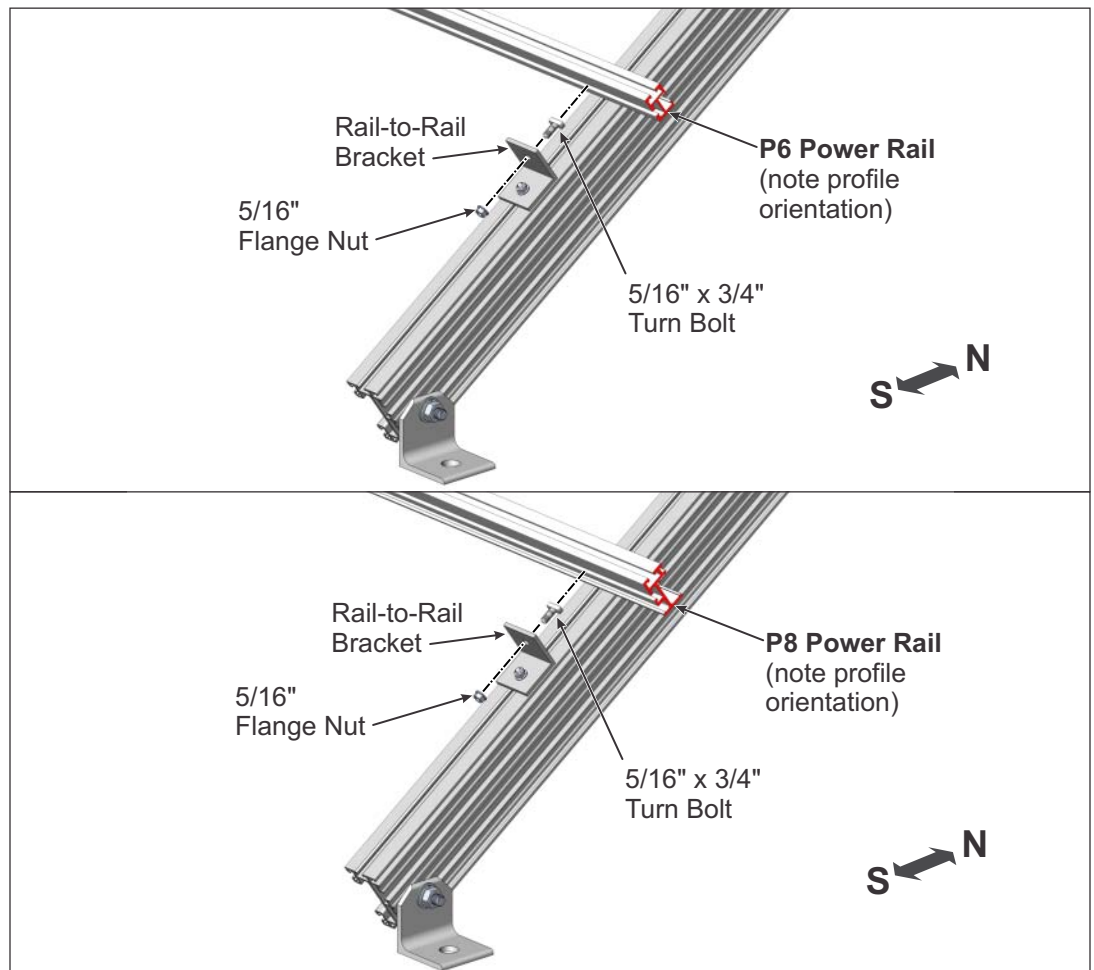

Figure 7-1: Installing P6 or P8 Power Rails
- A. Position the southern Power Rail to the north side of the Rail-to-Rail brackets with the Power Rail profile in the same orientation as shown in Figure 7-1.